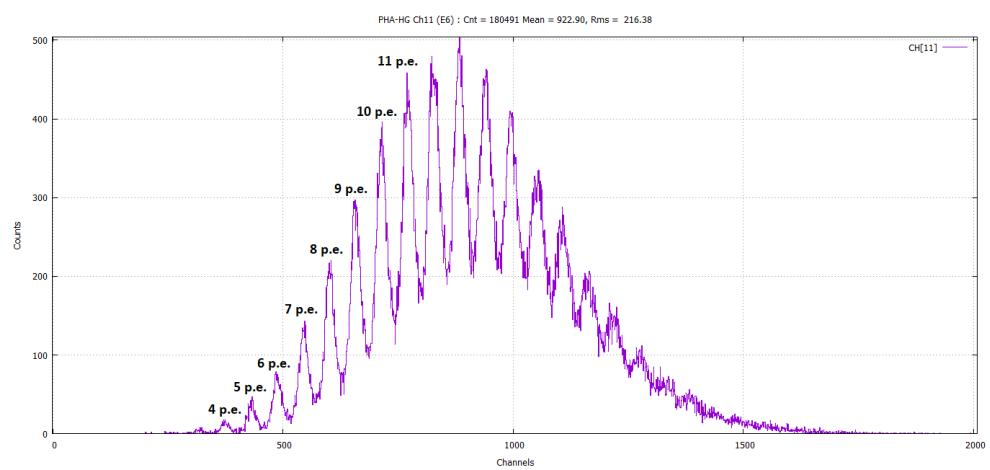

Fig. 10.48: Pulse height amplitude spectrum with the association of each peak to the correpontent number of photoelectrons triggered.
3. Increase the light until a spectrum similar to that in Fig. 10.48 is obtained. The pedestal and the first three photopeaks disappeared; taking advantage of the previous step (see Fig. 10.48), the association of each peak to the correspondent number of photoelectrons triggered is possible.